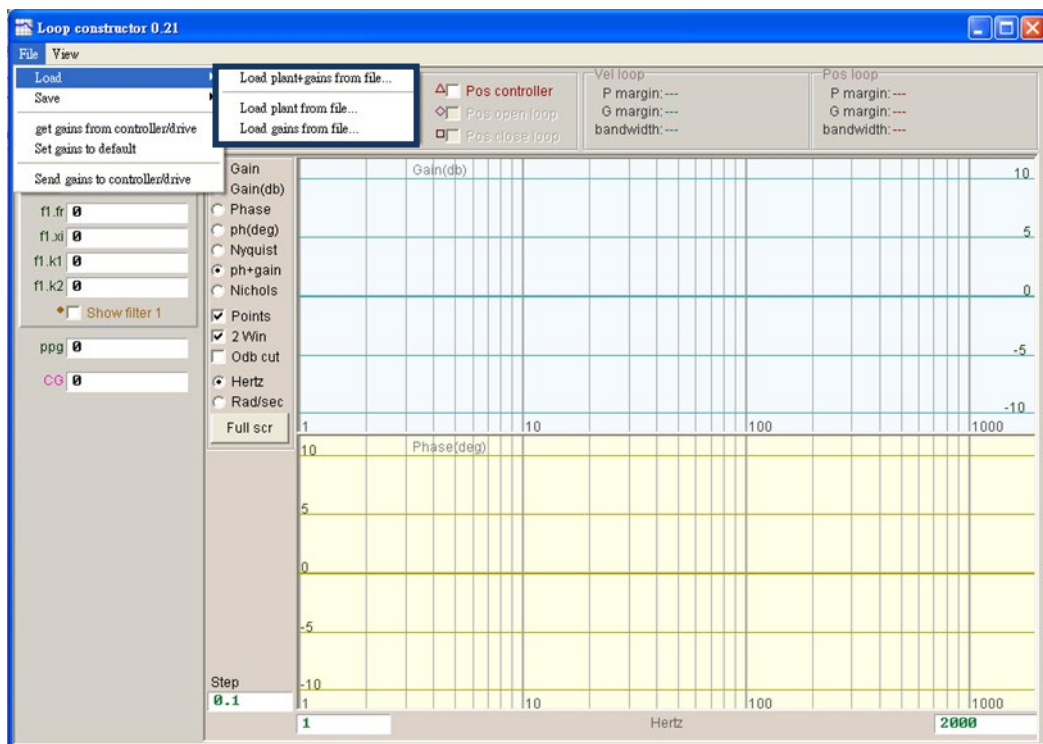

Figure6.7.1.1 Loop constructor - load data from file
After using “Loop constructor” to analyze the control system, if it is needed to save the control system and gain parameters, select the “Save” option in the “File” menu of “Loop constructor” window. There are three methods of saving file: (1) “Save plant + gains to file...”, (2) “Save plant to file...”, and (3) “Save gains to file...”, as shown in figure 6.7.1.2.
- (1) Save plant + gains to file...: Save as the .lop file. This file contains the control system and gain parameters.
- (2) Save plant to file...: Save as the .fgr file. This file contains the control system.
- (3) Save gains to file...: Save the .gns file. This file contains the control gain.